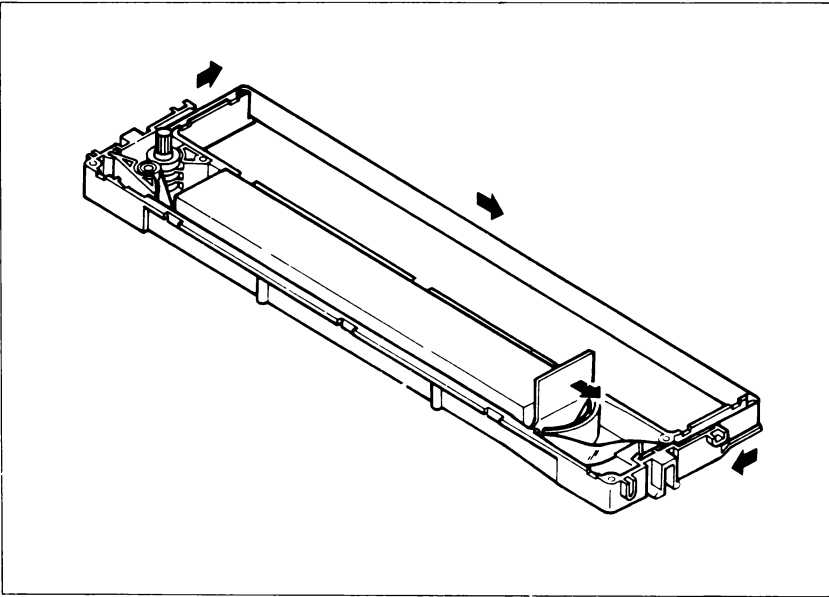

Figure 3-3. Make sure that the ribbon is not twisted when you thread it through its path.
8. Pull out the ribbon and thread it as shown in Figure 3-3. It's easy for the ribbon to get twisted along its path, so be careful.